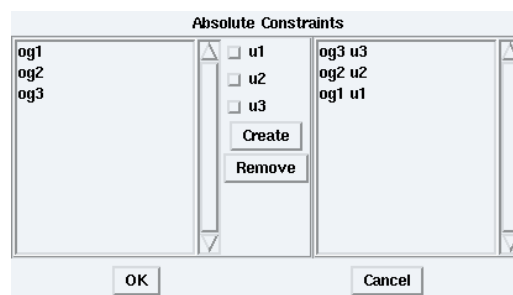

Figure 1.23: Constrain operation groups on operators of the architecture selected
- * click on **OK** button (cf. figure 1.23),